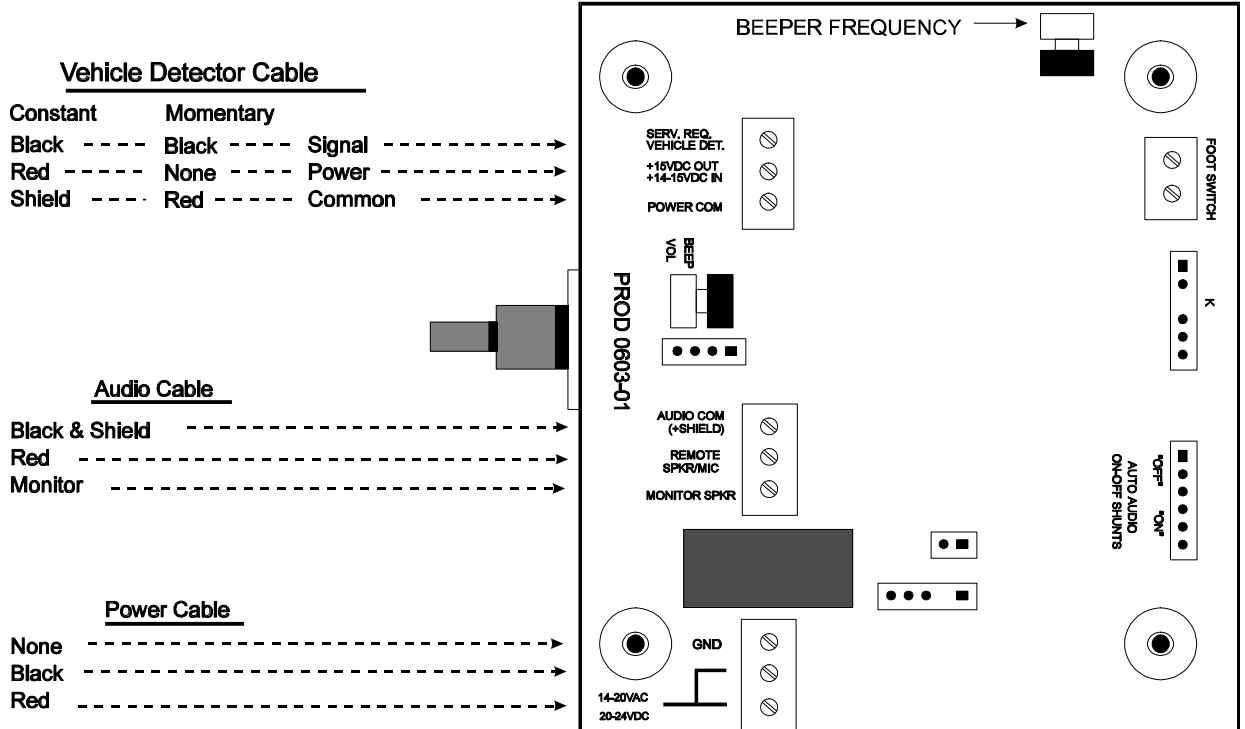

Figure 3
1. (Fig. 3) Position a washer and nut at the center of the 1/8" x 27 NPT threaded tube.
7. Place the 933 flush mounted housing on a flat surface with the hole plug down and the opening towards you (fig. 3).